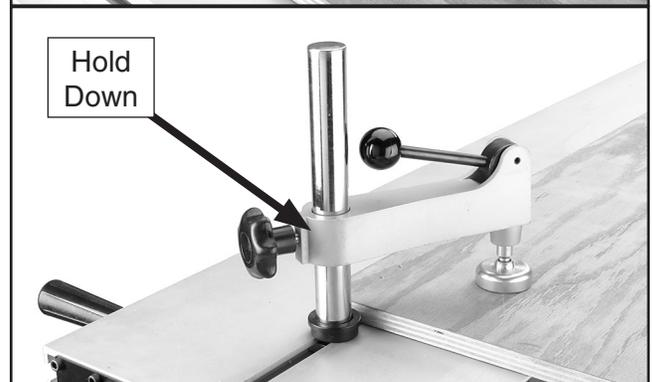

Figure 52. Edge shoe and hold down placement.
6. When ripping irregular shaped stock, wedge the leading edge under the edge shoe (**Figure 52**), slide the hold down into place as shown in **Figure 52**, and clamp the stock firmly.